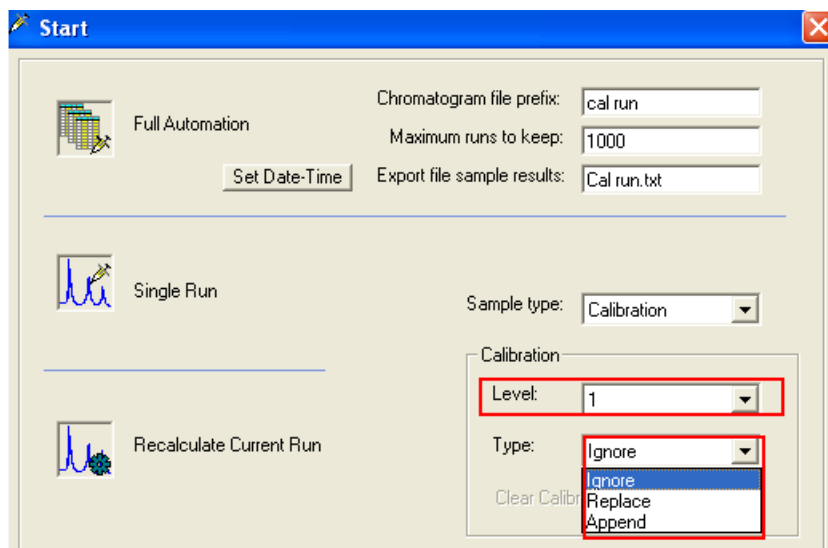

Figure 51: “Start dialog screen (Sample Type, calibration Level and Type)
- In the “start” dialog screen select Sample type “Calibration”, ‘Level’ is set to ‘1’, Type’ is set to ‘Replace’, see Figure 51.